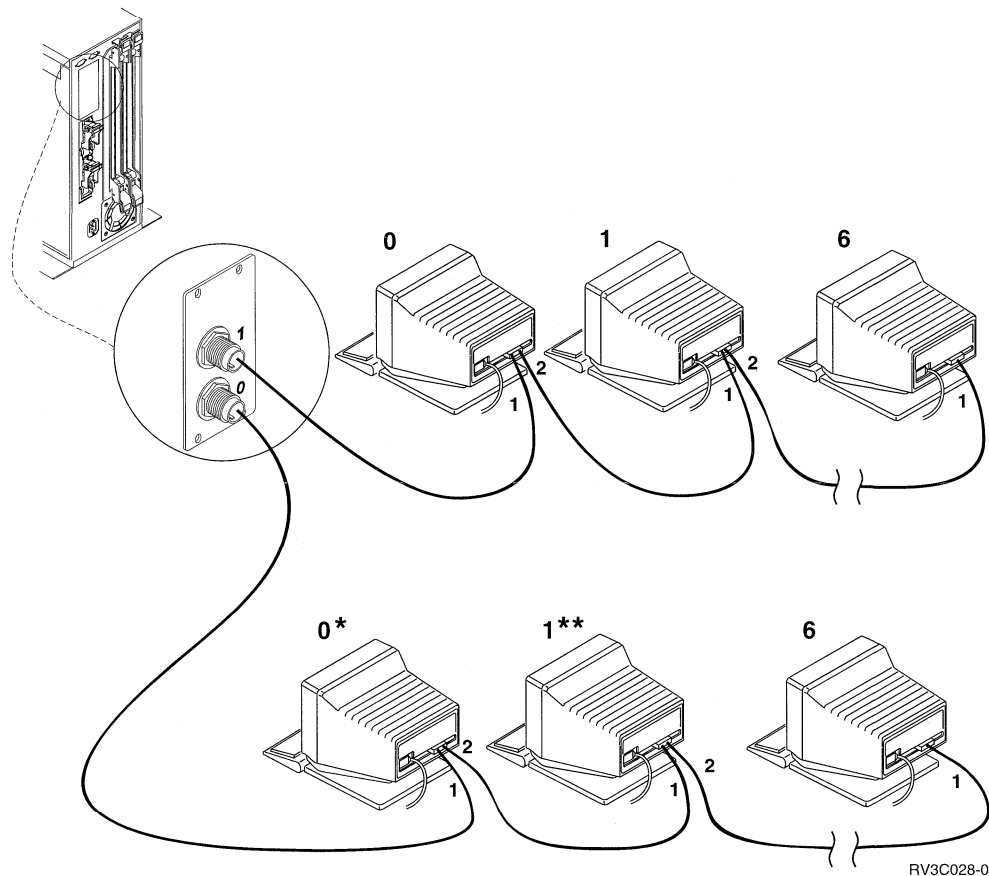

Figure 3-8. Assigning Addresses for Twinaxial Workstations
- 9402 systems without the First Workstation Attachment Feature and all 9404 and 9406 systems have addresses 0 through 6 available on all twinaxial ports. A 9402 is shown in Figure 3-8.
The addresses available for the twinaxial workstations connected to port 0 (indicated in Figure 3-8 by * and **) are then 2 and 3. The remaining addresses (through 6) are also available.
The addresses available for the twinaxial workstations connected to port 0 (indicated in Figure 3-8 by * and **) are then 1 and 2. The remaining addresses (through 6) are also available. Each twinaxial workstation must have a unique address.